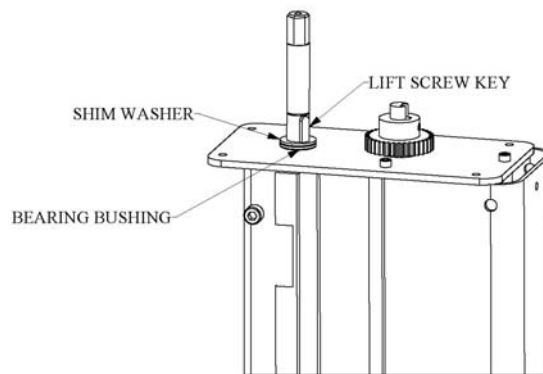

Fig. 1.33
3. Assemble the inner and outer lift tubes. NOTE: Movaload recommends replacing the bearing bushing in the outer lift tube weldment whenever the inner lift tube assembly is being replaced. Refer to Fig. 1.33.
5. Install the drive key into the keyway with the notched end oriented so that it will clear the bearing bushing. Refer to Fig. 1.33.